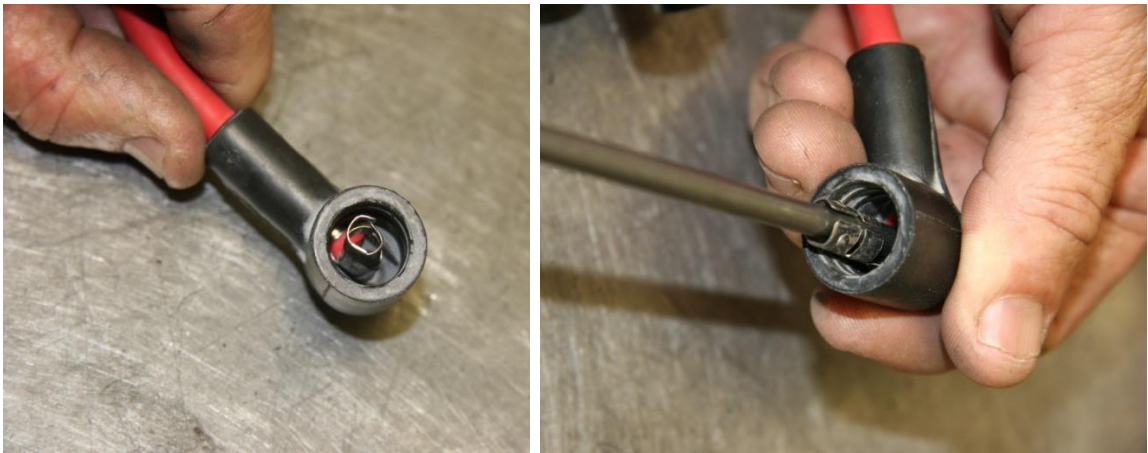

Figure 110 – Adjusting High Tension Lead Caps
- Check the fit of the high-tension lead caps onto the distributor and spark plugs. Visually check the metal contacts inside the caps. If the fit is loose or if the contact is visibly damaged as shown in Figure 110 then a screwdriver or similar must be used to re-shape the contact (it should be round) and to re-size it for a better fit – for a spark plug the diameter of the contact needs to be reduced to tighten while for a distributor cap it needs to be expanded. Each cap should fit with a clear "click" as it connects to the distributor cap or spark plug.